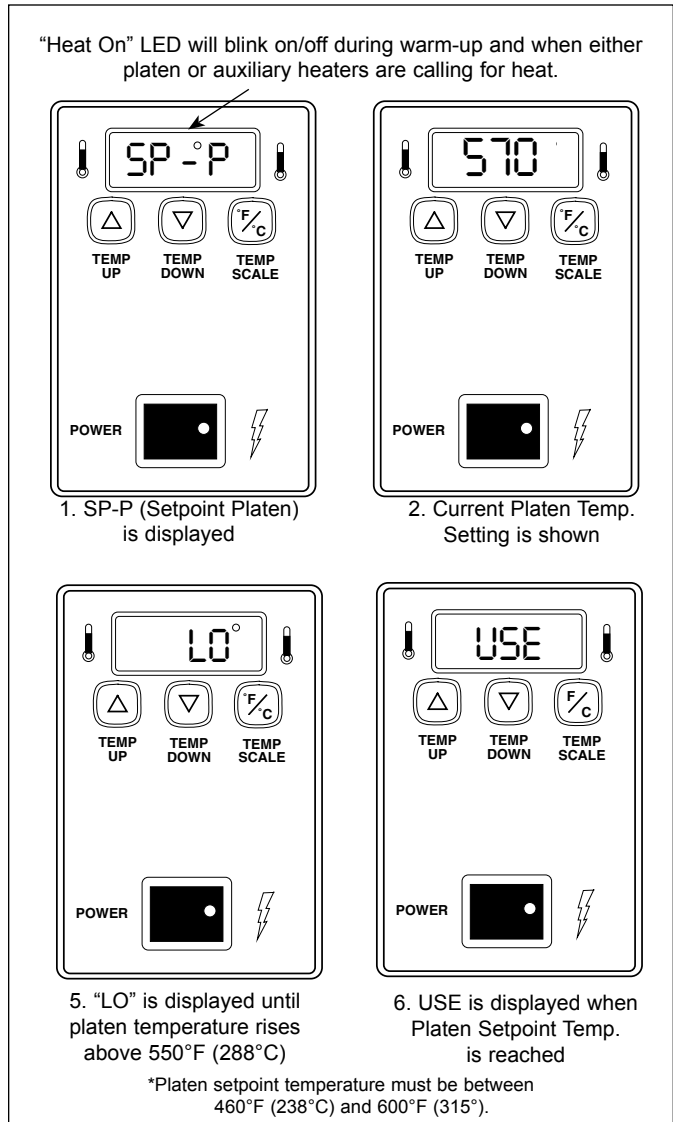

Figure 4. Temperature Power Up Sequence
1. Turn Rocker Switch (power On/Off) to ON and wait for temperature display to finish the power up sequence (Figure 4).